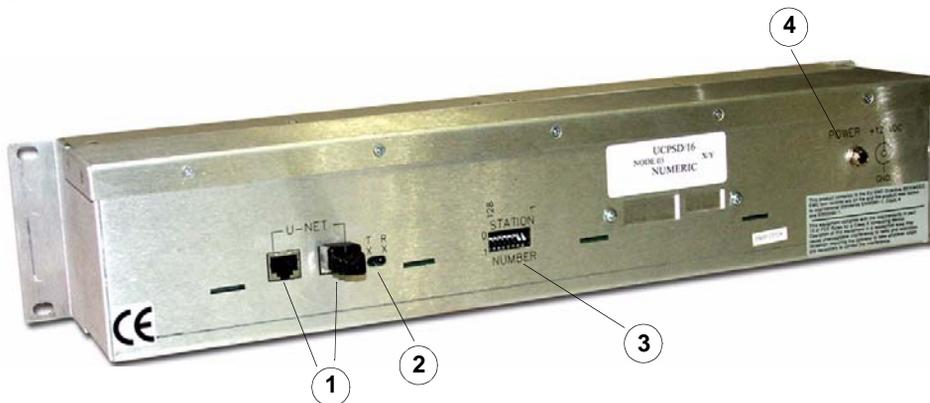

FIGURE 2-5. UCP-SD16 Back Panel
3. Connect the U-NET cable between either one of the U-NET ports on the back panel of the UCP-SD16 (refer to Figure 2-5 on page 2-6, callout #1) and the U-NET port on the back of the controller. In a daisy-chain configuration of panels, attach the cable to the device positioned before the panel on the network.
5. **Plug the 12 VDC power supply into a local 110 VAC power receptacle** (AC version) or 36 - 72 VDC power source (DC version), then attach the DC output power cord to the power connector on the back panel of the UCP-SD16 (refer to Figure 2-5 on page 2-6, callout #4).